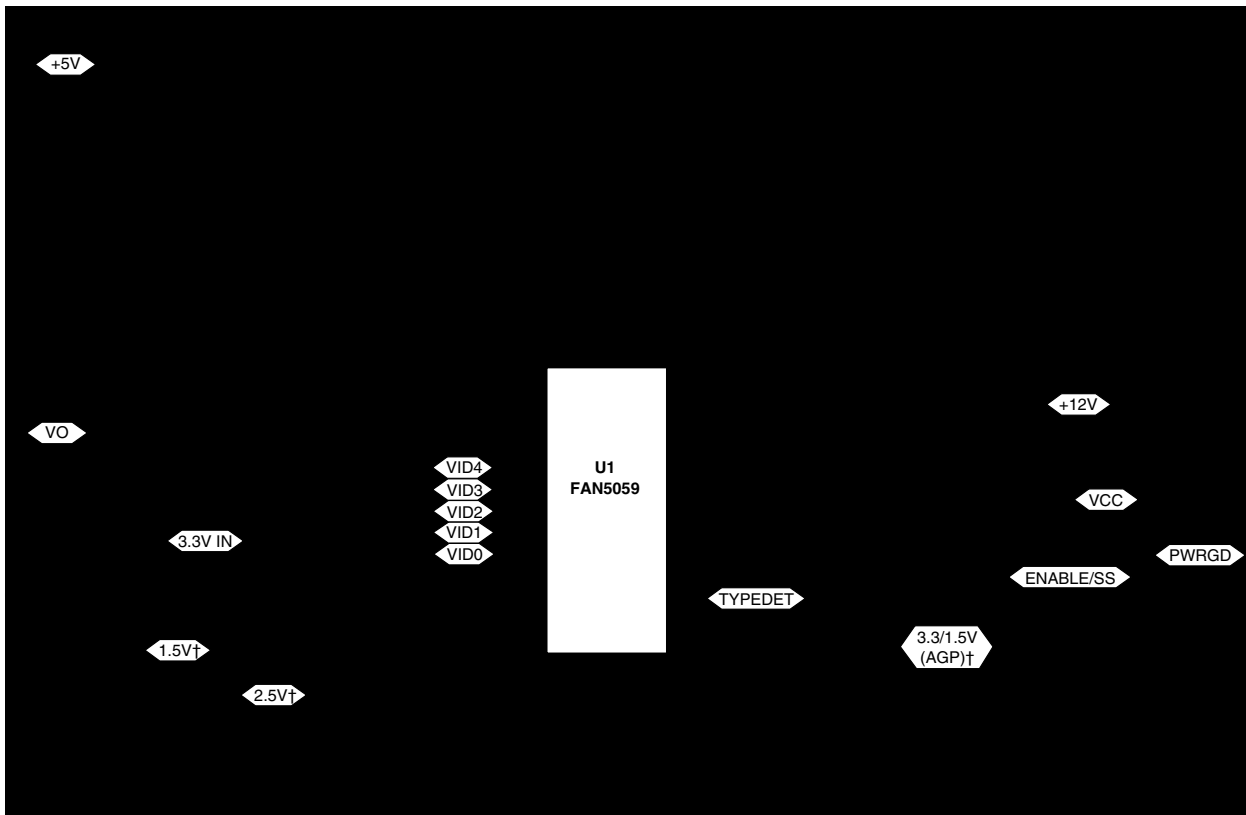

Figure 1. Typical Application Circuit
(VCCA = 5V, VCCP = 12V, VOUT = 2.0V, and TA = +25°C using circuit in Figure 1 unless otherwise noted.)
**Electrical Specifications** (Continued)(VCCA = 5V, VCCP = 12V, VOUT = 2.0V, and TA = +25°C using circuit in Figure 1 unless otherwise noted.)
( $V_{CCA} = 5V$ ,  $V_{CCP} = 12V$ , and  $T_A = +25^\circ C$  using circuits in Figure 1, unless otherwise noted.)